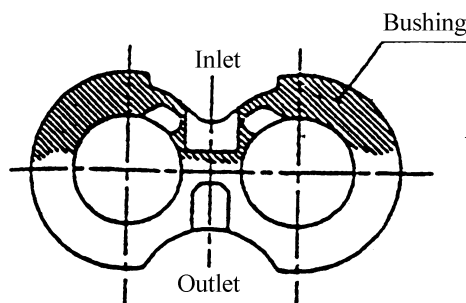

Fig. 7-11
- (b) Lining plate inspection (Fig. 7-11)